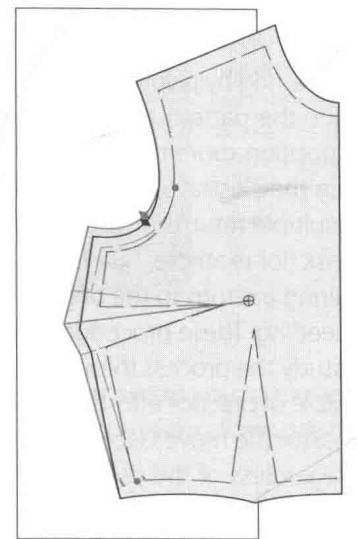

FIGURE 6.29f Return pattern to original position. Gray fill illustrates the finished pattern.
7. Restore the pattern edges to make the necessary restoration (see Figure 6.29f).